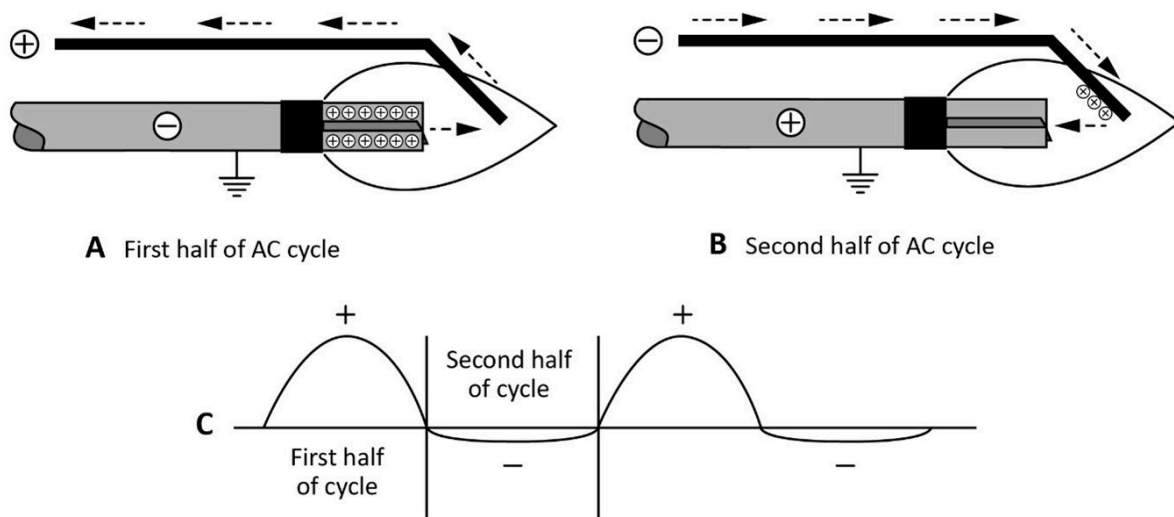

Figure 9 Current flow in a flame rectification system
- Figure 9 “Twist drill index” by Camosun College is licensed under a CC BY 4.0 licence (<https://creativecommons.org/licenses/by/4.0/>).
For a rectified system, when an AC supply voltage is placed across the two electrodes during the first half of the AC cycle, the flame rod is positive and the grounding area is negative (Figure 9 A). The positively charged ions collect on the negative charged grounding area. Since the grounding area is very large, it holds many ions. The positively charged ions pull a high stream of electrons into the flame, more than if the grounding area was the same size as the flame rod. This results in a high current flowing from the grounding area to the flame rod during the first half cycle of the AC supply voltage (Figure 9 C).
During the second half cycle, the reverse process takes place (Figure 9 B). However, the capacity of the
- Figure 9 “Current flow in a flame rectification system” by Camosun College is licensed under a CC BY 4.0 licence (<https://creativecommons.org/licenses/by/4.0/>).